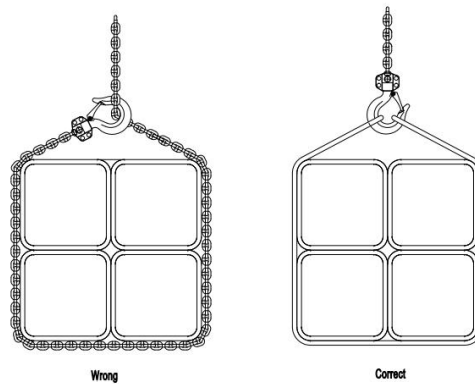

Figure 10
- When lifting loads, hook the load with slings. Do not use the lever hoist chain as a sling, (Fig. 10).